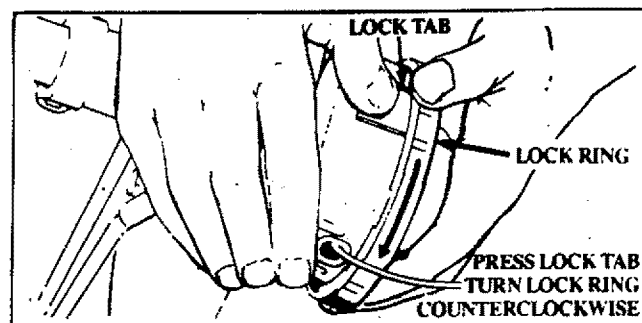

Figure 18
- a. Hold the Trimmer Head as shown in Figure 18. Press the lock tab, and turn lock ring counterclockwise